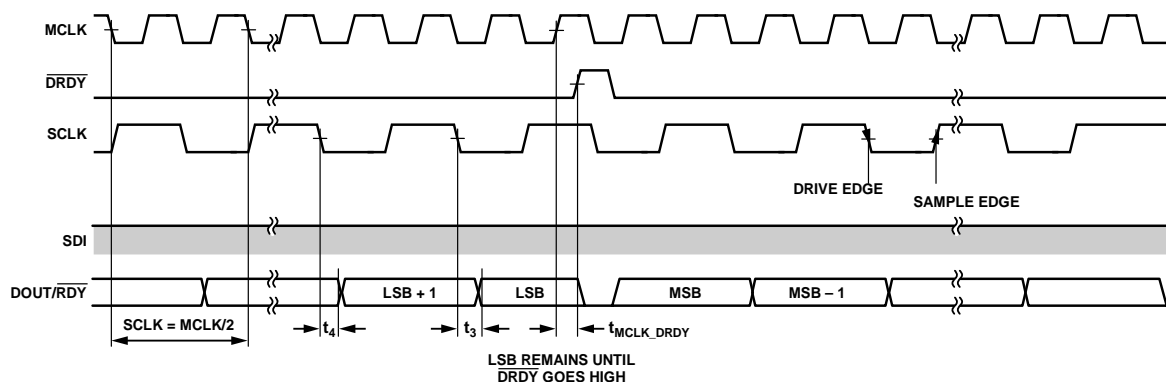

Figure 98. Recommended Interface for Reading Conversions, SPI Control, Continuous Readback Mode
The AD7768-1 interface is flexible to allow the many modes of operation and for data output formats to work across different DSPs and microcontroller units (MCUs). To achieve maximum performance, the recommended interface configuration for reading conversion results is shown in Figure 98. This recommended implementation uses a synchronous SCLK to MCLK relationship.
Figure 98 shows how the recommended interface operates. The data read back spans the entire length of the  $\overline{\text{DRDY}}$  period and the LSB remains until  $\overline{\text{DRDY}}$  goes high for the next conversion.
2. Generate SCLK based on the  $\overline{\text{DRDY}}$  or  $\overline{\text{RDY}}$  timing. SCLK is high when the  $\overline{\text{DRDY}}$  signal goes high and transitions on the MCLK falling edges (see Figure 98) to ensure that the LSB can be read correctly as the DOUT/RDY output is reset on the  $\overline{\text{DRDY}}$  rising edge. However, SCLK rising occurs before this transition.
Because the full ODR period is for clocking data, the  $\overline{\text{RDY}}$  signal no longer flags after each LSB outputs. This signal only flags if the AD7768-1 is in continuous readback mode, or if the AD7768-1 does not count 32 SCLKs within  $1 \times t_{\text{MCLK}}$  before  $\overline{\text{DRDY}}$ , as is shown in Figure 98.